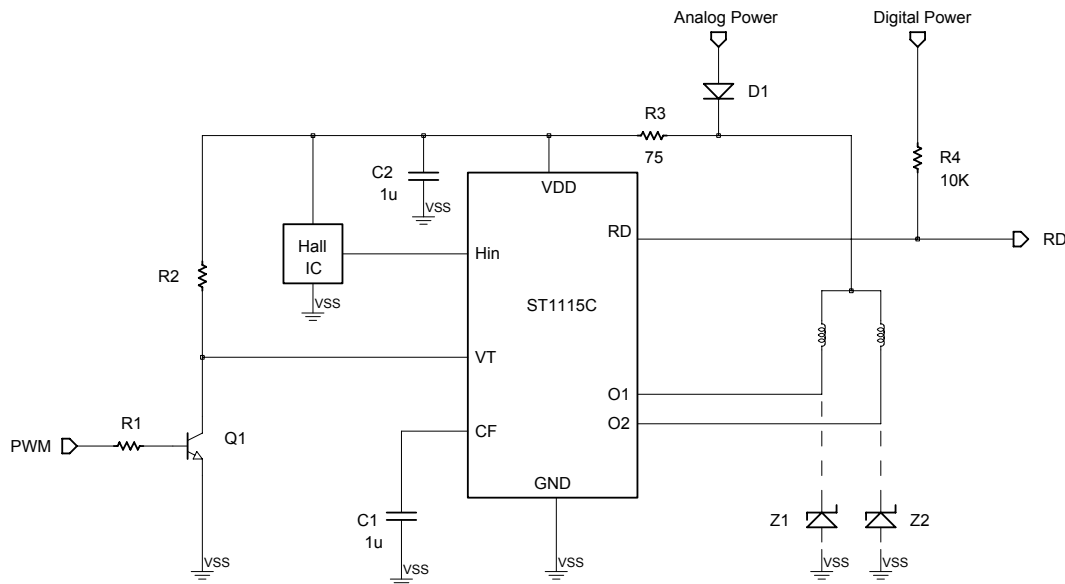

Figure 5. Fan speed control via the PWM command.
**3. Fan speed control by the PWM command**—Refer to Figure 5.
- (1) Figure 5 shows the application circuit, where the fan speed is directly controlled by the PWM command. The BJT Q1 together with resistors R1 and R2 constitutes an inverting level shifter, which is responsible for translating the voltage level of the PWM command to the VDD voltage level of the drive IC. In this way, the voltage level of the PWM command can be very low, say, 2 Volt, for example.
- (2) For this circuit, the PWM command is active high and its frequency range is 200 Hz ~ 40 KHz. If low acoustic noise is desired, the 20 KHz~40 KHz of the PWM frequency range is recommended.